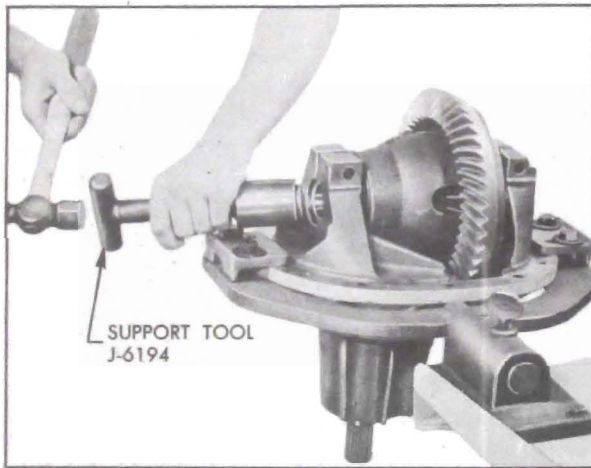

Figure 6-35—Installing Differential Bearing Supports
8. Drive each differential bearing support into its pedestal until seated solidly in the bearing, using Support Tool J-6194. See figure 6-35. Tighten pedestal clamp bolts and nuts to 30-40 foot pounds. Secure nuts with cotter pins.